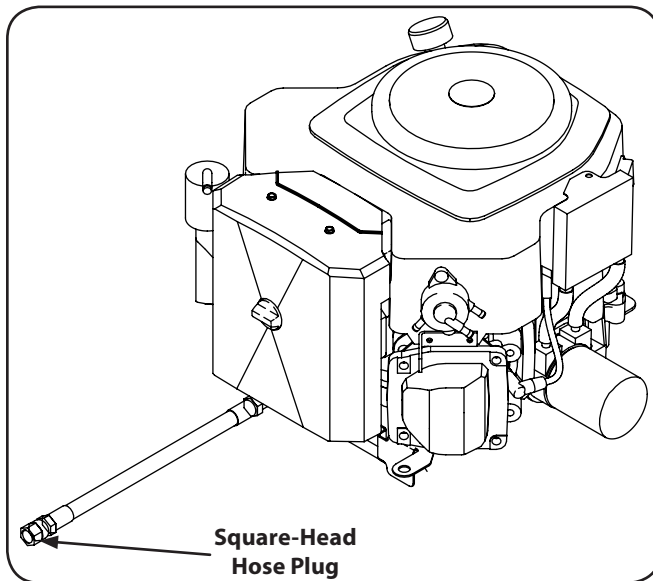

Figure 1-1
4. While holding the free end of the oil drain hose over the oil collection container, unscrew the square-head hose plug from the end of the hose. See Figure 1-1. Drain the engine oil into the collection container.